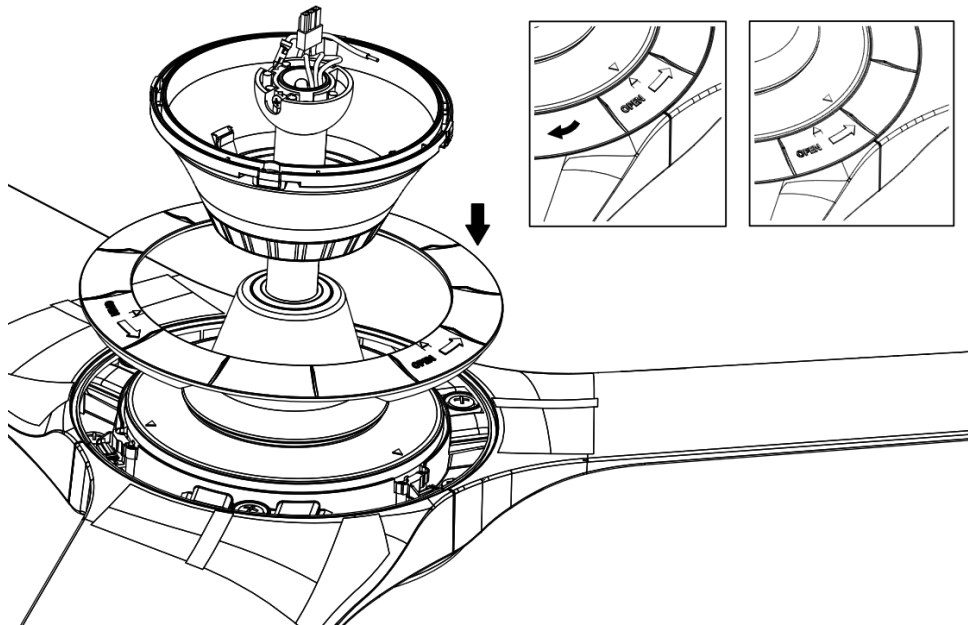

Fig. 5.3
3. Install the fan host ring cover back to the motor assembly. Lock it by turning clockwise. (Fig.5.3)